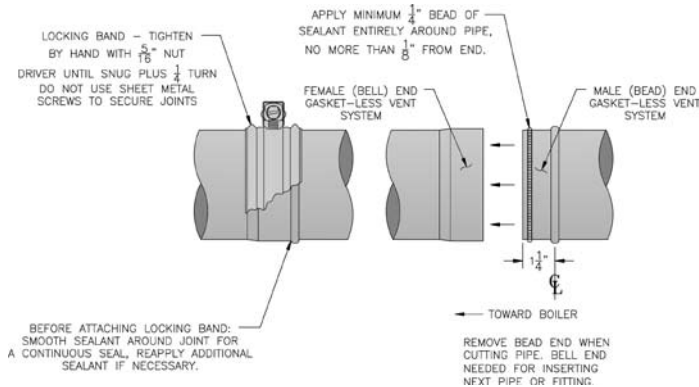

Figure 4A: Gasket-Less Vent Joint Detail
1. Procedure for Joining Gasket-Less Vent Pipe and Fittings. See Figure 4A.